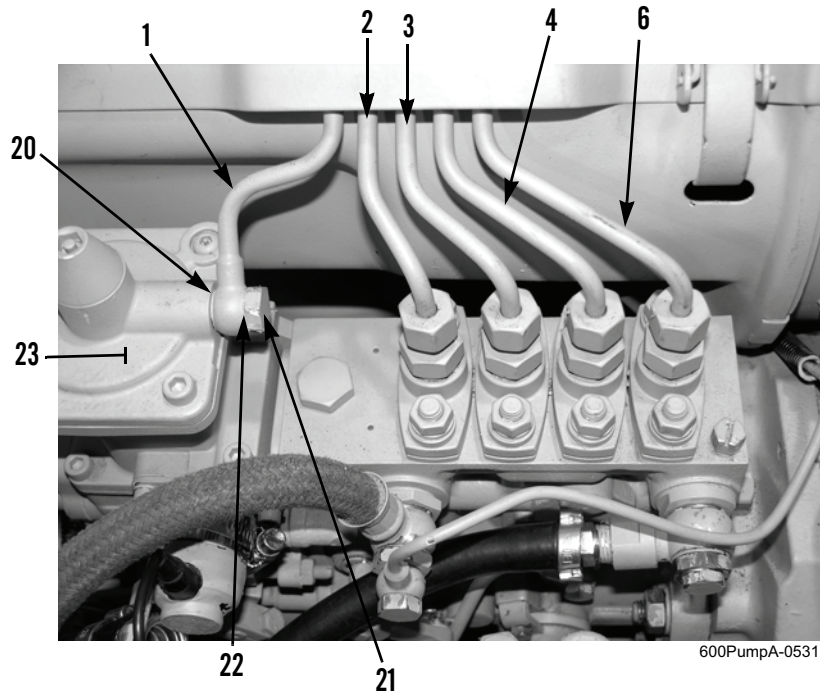

Figure 3. Injector Lines at Fuel Injection Pump.
8. Remove fluid passage bolt (Figure 3, Item 21), sealing washer (Figure 3, Item 22), injector line (Figure 3, Item 1), and sealing washer (Figure 3, Item 20) from fuel injection pump (Figure 3, Item 23). Discard sealing washers.
9. Remove injector lines (Figure 3, Items 2, 3, 4, and 6) from fuel injection pump (Figure 3, Item 23).
1. Position and align injector lines (Figure 3, Items 2, 3, 4, and 6) to fuel injection pump (Figure 3, Item 23). Carefully start tightening all lines.
2. Install new sealing washer (Figure 3, Item 20), injector line (Figure 3, Item 1), sealing washer (Figure 3, Item 22), and fluid passage bolt (Figure 3, Item 21) on fuel injection pump (Figure 3, Item 23).